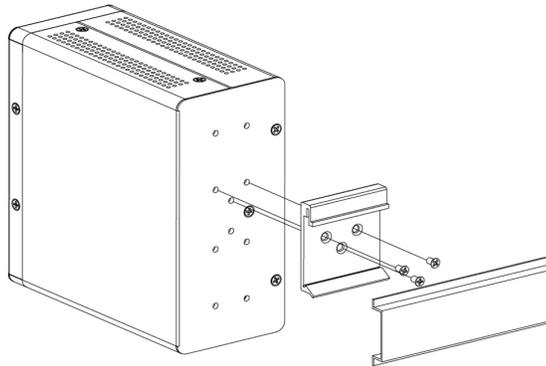

Figure 2. Attach the DIN Rail Bracket to the Switch's Rear Panel
1. Attach the DIN rail mounting bracket to the back panel of the chassis as shown in Figure 2. Insert the provided screws and tighten them with a screwdriver to secure the bracket.